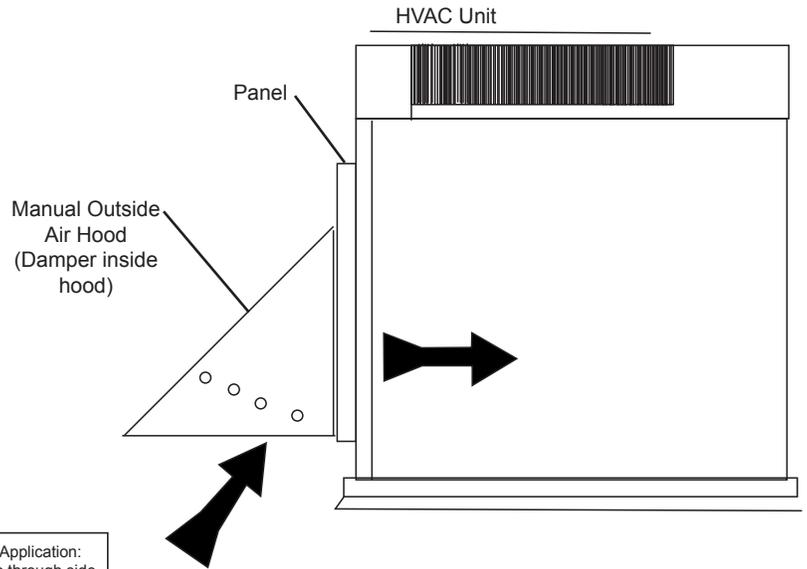

Fig. 2 - Vertical Application - Side View
3. Caulk or gasket the back side of the manual outside air hood. Secure the hood to the Replacement Panel as shown in Fig. 2. Screw in place through pre-punched holes.